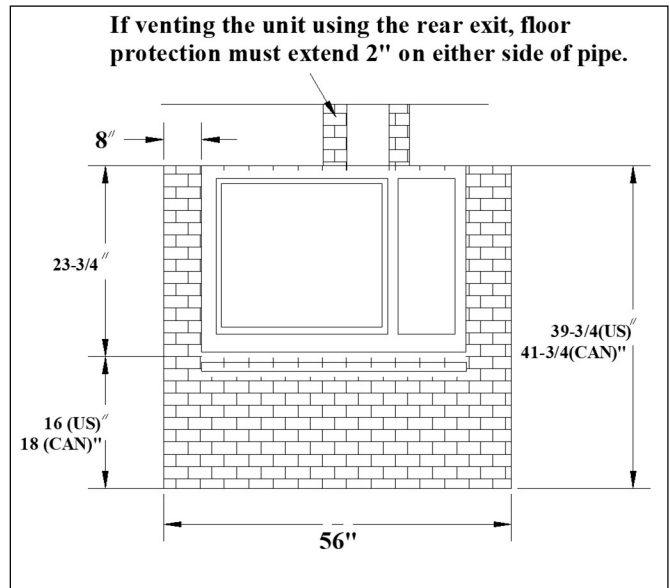

Figure 1 - Hearth Protection for top vent installations
- 🔥 A non-combustible floor protector that you obtain from your dealer, or any other noncombustible material (metal, glass, stone, tile, etc.). A floor protector is any noncombustible surface laid on the floor underneath the stove that extends, 16 inches -US (or 46 cm in Canada) beyond the fuel loading door and 8 inches (20 cm) beyond each side of the cook stove. (See Figure 1) The hearth protection for your Deva 100 must have an R-value of at least 0.89, or be a UL Listed floor protection.